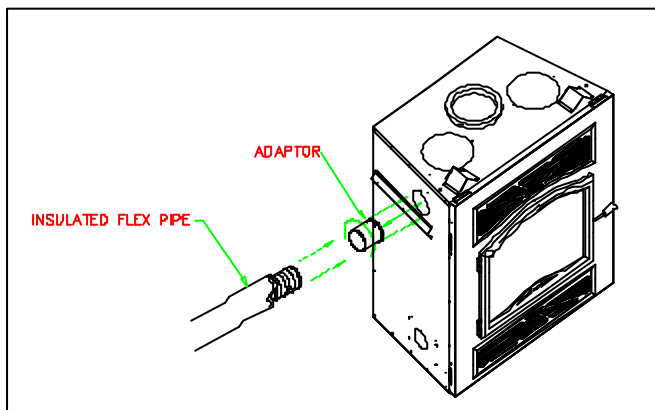

Figure 21
1. Fix the adaptor at the back and/or the side of the fireplace by twist-locking the adaptor to the fireplace. You can use more than one outlet on the fireplace (figure 21).